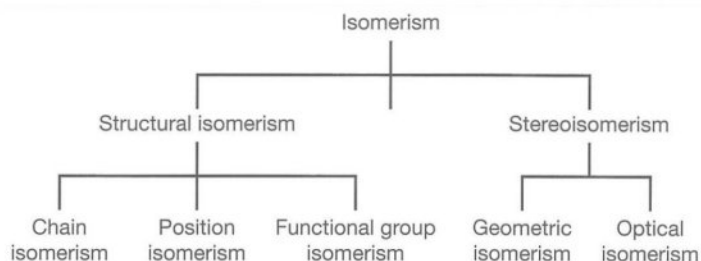

Figure 12.2 Types of isomers.
There are a number of different types of isomers, as illustrated in Figure 12.2.
- Figure 12.2 shows the formula for three compounds. Explain why these compounds are said to be isomers of pentane.